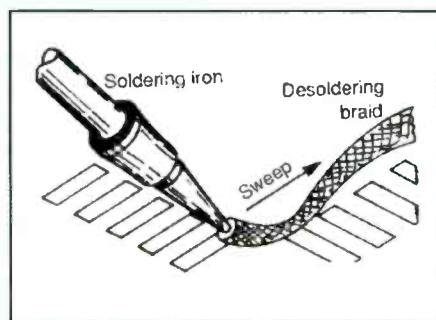

Figure 4. Using a soldering iron and desoldering braid, remove the leads from the board, using a sweeping motion in the direction of the foils.
4. Using a soldering iron and desoldering braid, remove the leads from the board, using a sweeping motion in the direction of the foils (Figure 4.)